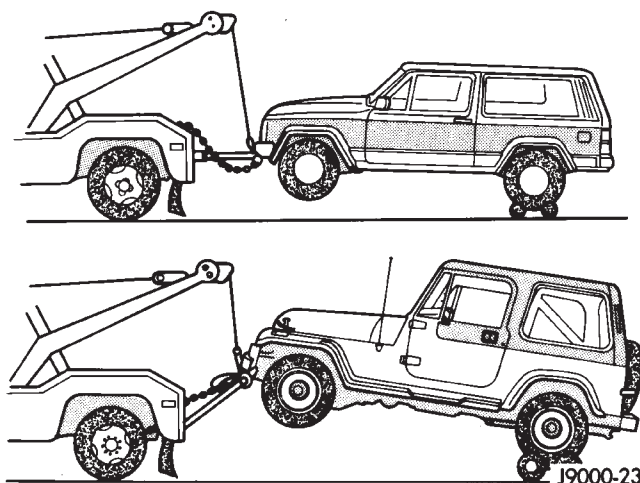

Fig. 14 Sling-Type, Front-End Towing With Rear Wheels On A Tow Dolly
- place a tow dolly under the rear wheels (Fig. 14) and tow with the front end raised (refer to Sling-Type, Front-End Towing).
Place a tow dolly under the rear wheels (Fig. 14) and tow with the front end raised (refer to Sling-Type, Front-End Towing).